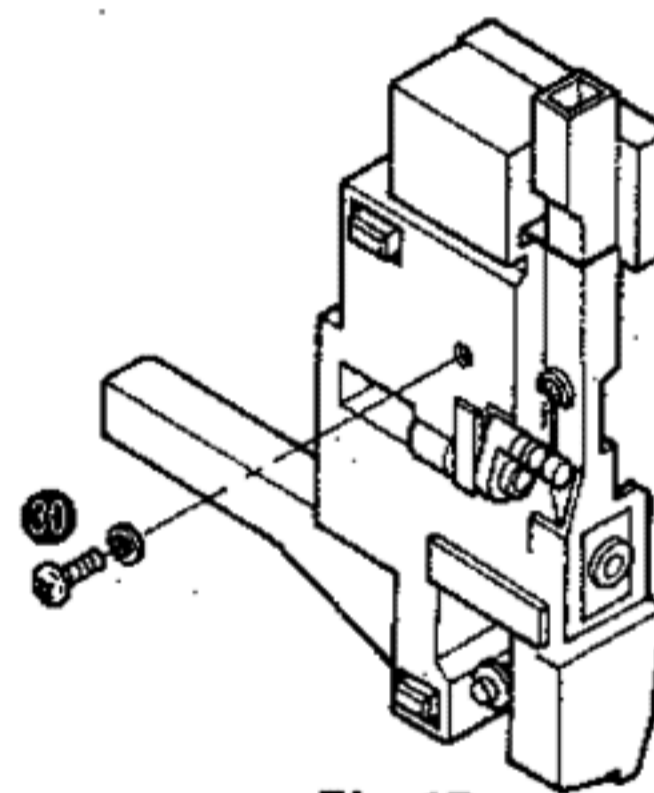

Fig. 17
4. Remove the cueing plunger setscrew (Fig. 17 : 30), then the cueing plunger can be removed.